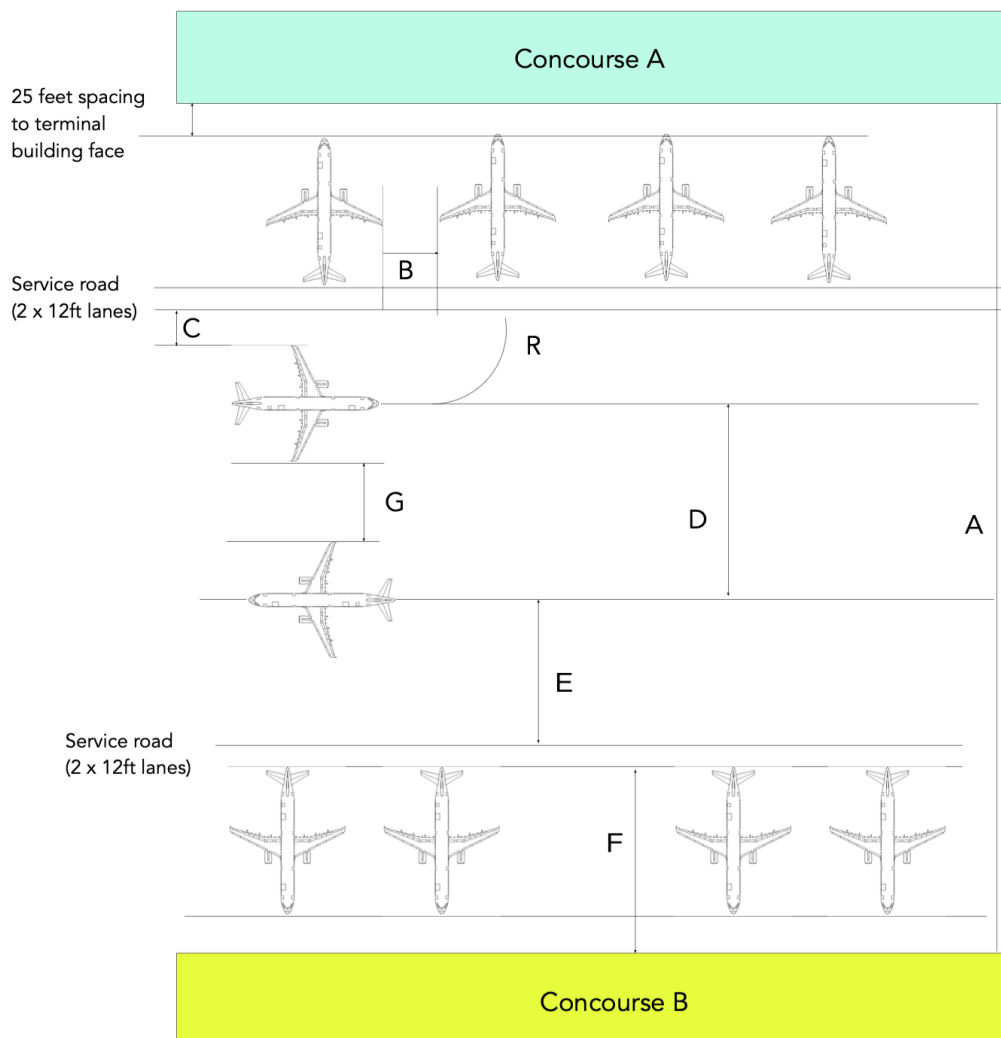

Figure 1. Airport Taxiway Configuration for Problem 1.
A new airport is designed with two satellite terminal buildings as shown in Figure 1. The buildings are designed to accommodate aircraft up to the size of an Airbus A321neo and the standard Airbus A321.
a) Find the dimensions A through R in Figure 1. Make sure that your design allows pilots entering the gate position to maneuver with steering angles no more than 50 degrees. Assume the service roads have 12-foot wide lanes.